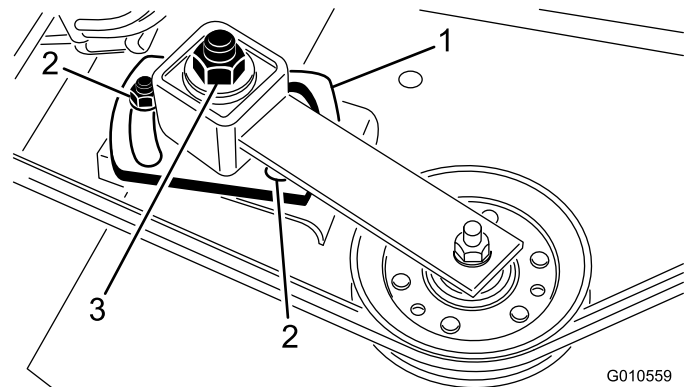

Figure 30
6. Use a socket and torque wrench to tighten the idler adjusting nut to 35-40 ft-lb (47-54 N-m) (Figure 30).